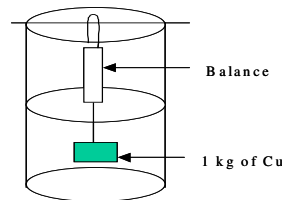

Figure 6
2. (a) A 1-kg piece of copper (specific gravity 9) is submerged in water and suspended from a spring balance as shown in Figure 6.